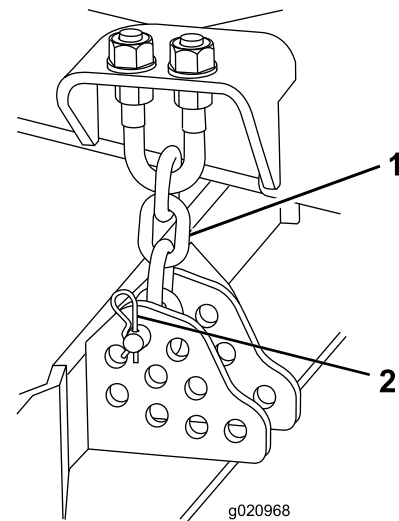

Figure 19
9. Remove the hairpin cotter and clevis pin securing the height-of-cut chains to the rear of the mower deck (Figure 19).